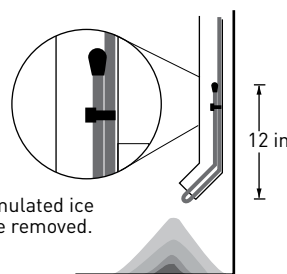

Figure 10. Heating cable in downspout
- Run heating cable along gutters and into downspouts, ending below the freezing level. Permanent attachment of the cable to the gutter bottom is not necessary. Loop the heating cable in downspouts. Do not leave the end of the Gardian in air at the end of the downspout as shown in Figure 10.